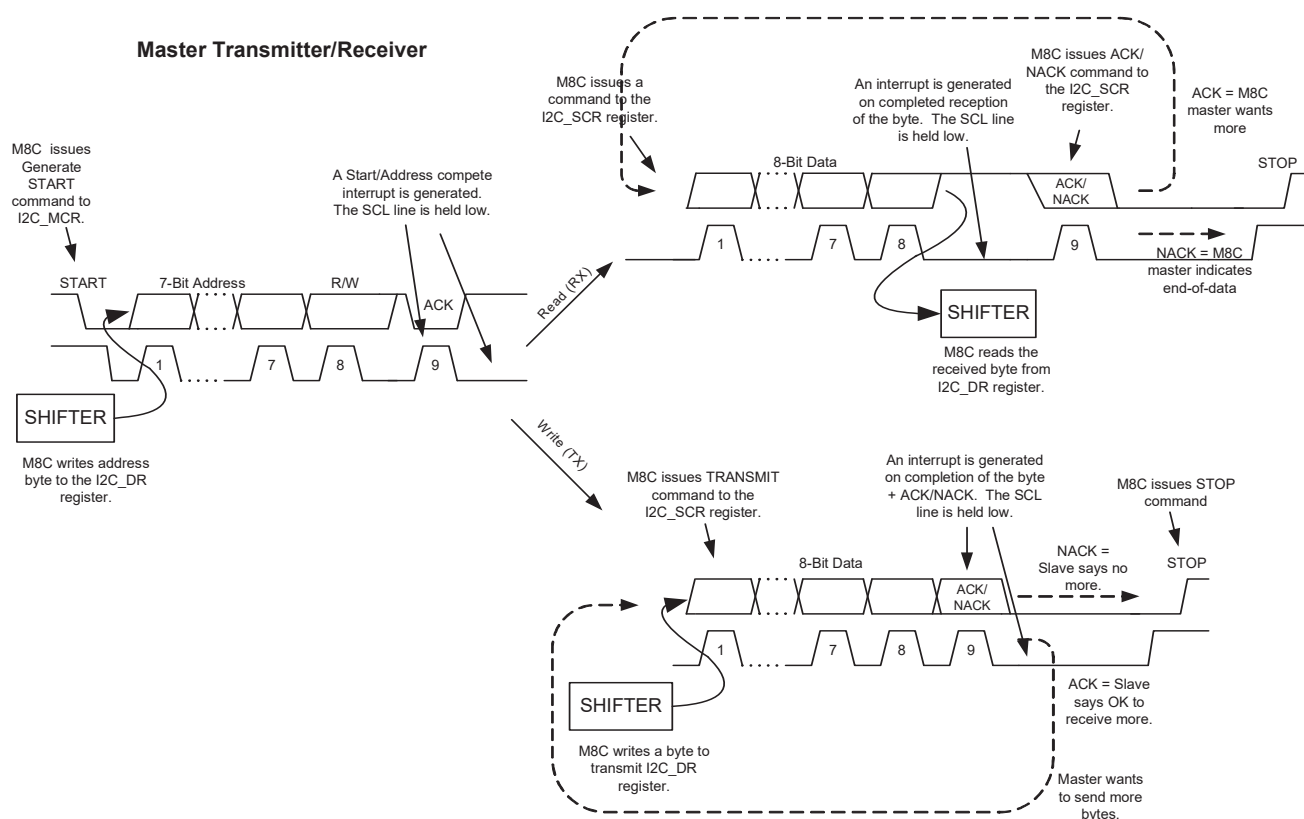

Figure 28-3. Master Operation
Figure 28-3 is a graphical representation of a typical data transfer from the master perspective.
**Bit 0: Enable Slave.** When the slave is enabled, the block generates an interrupt on any Start condition and an address byte that it receives, indicating the beginning of an I2C transfer. When operating as a slave, the block is clocked from an external master. Therefore, the block will work at any frequency up to the maximum defined by the currently selected clock rate. The internal clock is only used in Slave mode, to ensure that there is adequate setup time from data output to the next clock on the release of a slave stall. When the Enable Slave and Enable Master bits are both '0', the block is held in reset and all status is cleared. See Figure 28-3 for a description of the interaction between the Master/Slave Enable bits. Block enable will be synchronized to the SYSCLK clock input (see "Timing Diagrams" on page 474).